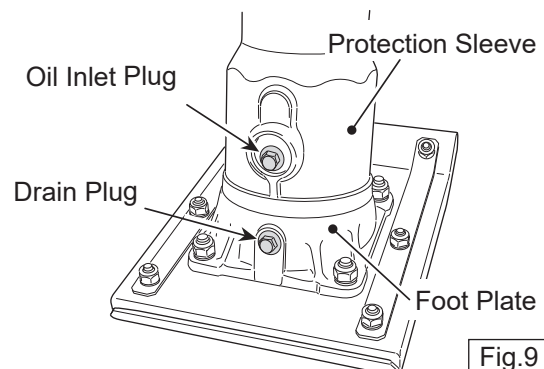

Fig.9
- Remove the oil drain plug on foot plate and drain the main body oil. (Fig.9)